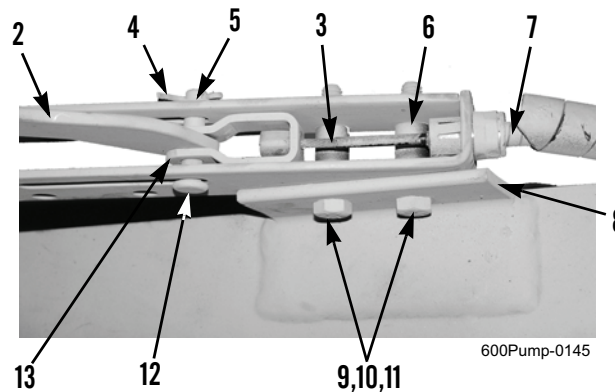

Figure 2. Hand Brake Lever Mounting.
2. Remove cotter pin (Figure 2, Item 4), washer (Figure 2, Item 5), and clevis pin (Figure 2, Item 12), and release hand brake cable clevis (Figure 2, Item 13) from hand brake lever (Figure 2, Item 2). Discard cotter pin.
3. Remove two locknuts (Figure 2, Item 9), washers (Figure 2, Item 10), spacers (Figure 2, Item 6), bolts (Figure 2, Item 11), and hand brake lever (Figure 2, Item 2) from welded angle bracket (Figure 2, Item 8) on trailer frame. Discard locknuts.
4. Release hand brake cable (Figure 2, Item 3) and cable sheath (Figure 2, Item 7) from notch in hand brake lever (Figure 2, Item 2).
1. Position hand brake cable (Figure 2, Item 3) and cable sheath (Figure 2, Item 7) in notch in hand brake lever (Figure 2, Item 2).
2. Install hand brake lever (Figure 2, Item 2) on welded angle bracket (Figure 2, Item 8) on trailer frame with two spacers (Figure 2, Item 6), bolts (Figure 2, Item 11), washers (Figure 2, Item 10), and new locknuts (Figure 2, Item 9).
3. Secure hand brake cable clevis (Figure 2, Item 13) to hand brake lever (Figure 2, Item 2) with clevis pin (Figure 2, Item 12), washer (Figure 2, Item 5), and new cotter pin (Figure 2, Item 4).
2. Remove hand brake cable (Figure 2, Item 3) and cable sheath (Figure 2, Item 7) from hand brake lever (Figure 2, Item 2). Refer to *Hand Brake Lever Removal* in this work package.